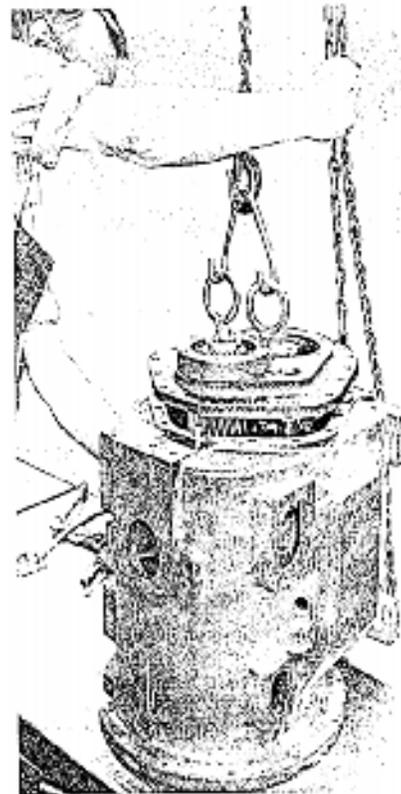

Figure 31. Removing Housing Cover and Pinion Shaft. Commutator should be held so pinion shaft slides freely.
7. With hoist, lift cover (pinion included) from housing. Hold rear commutator so pinion shaft slides out freely. See fig 31.
4. Remove housing cover cap screws and remove housing cover. Use suitable hoist. See fig.31.
5. Using adequate hoist, install the assembly consisting of housing cover, bearing retainer with bearings and pinion shaft (see fig. 31) onto dowels in the housing cover mounting surface. Note: Rear commutator should be held by hand and may need to be jiggled while pinion shaft is tapped into it.